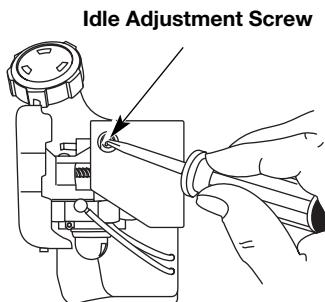

Fig. 34
The idle speed of the engine is adjustable. An idle adjustment screw is reached through a hole in the top of the engine cover (Fig. 34).
2. Release the throttle trigger and let the engine idle. If the engine stops, insert a small Phillips or flat blade screwdriver into the hole in the air filter/muffler cover (Fig. 34). Turn the idle speed screw in, **clockwise**, 1/8 of a turn at a time (as needed) until the engine idles smoothly.